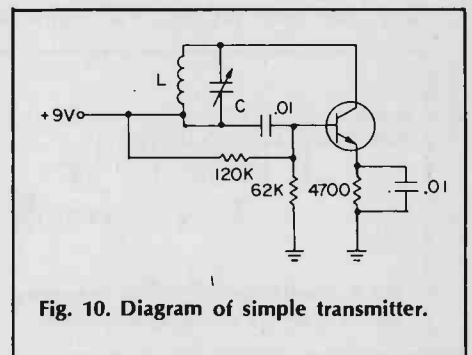

Fig. 10. Diagram of simple transmitter.
**Making FM.** Figure 10 shows a practical schematic diagram for an oscillator. If we were to build this oscillator and apply the correct voltages, it would generate a carrier which could be received on a nearby receiver. Its carrier would appear on the receiver dial at a place determined by the values we choose for inductor L and capacitor C.